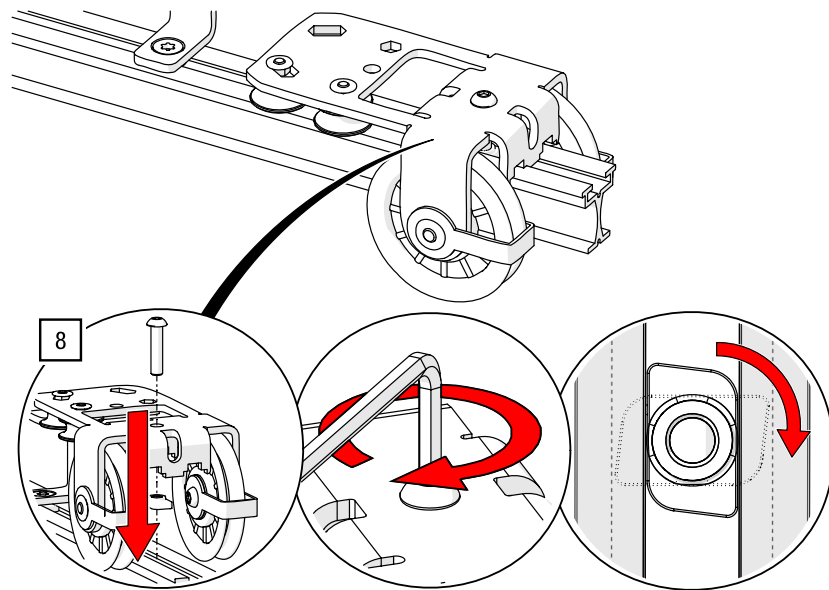

Fig. 94: Top cord operation – Mounting the head pulley
8. Position the head pulley in the desired position and screw it tight using an Allen key AF 5 and 27 Nm (see Fig. 94).
5. Position the head pulley in the desired position and fit it using a TORX®-key T40 and 27 Nm (see Fig. 94).